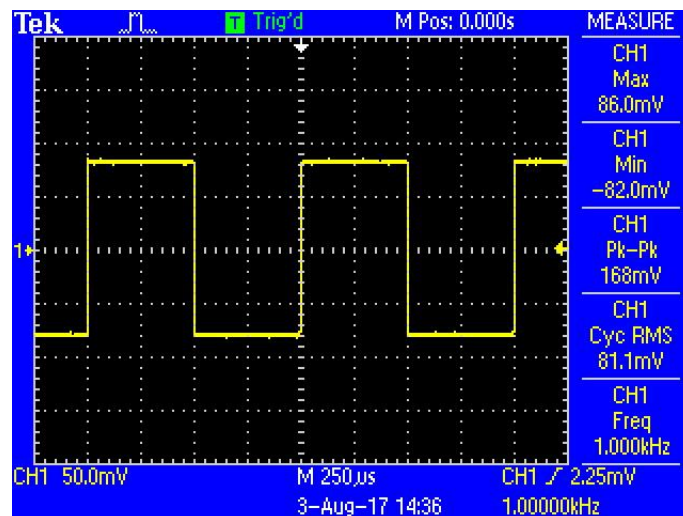

Fig.97 Measured Signal Parameter Diagram
3. Turn on the function signal generator and set “Function: Square”, “Amplitude: 80mVrms”, “Frequency: 1 kHz”, as is shown in Fig.97.